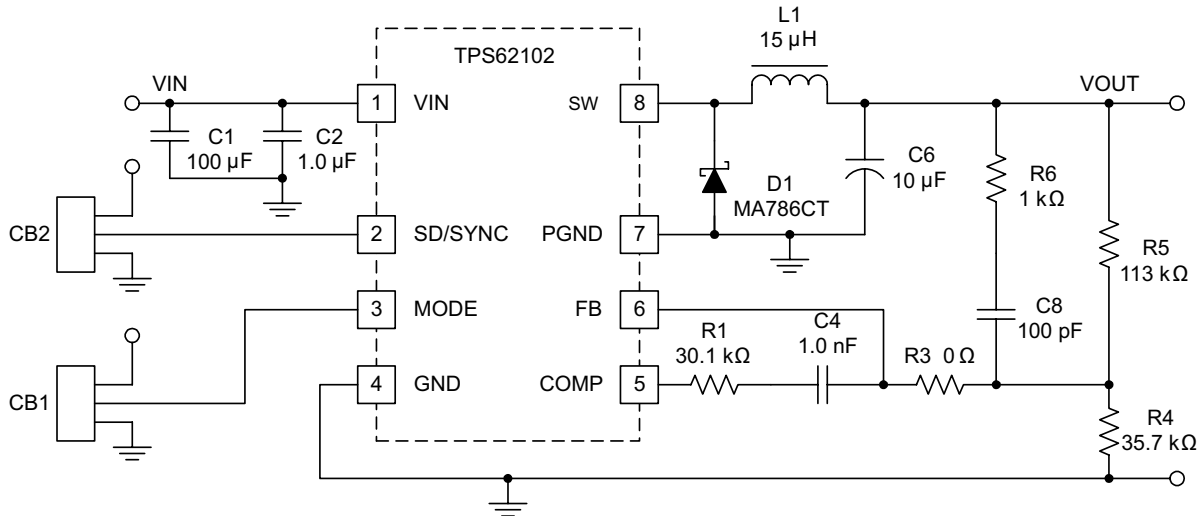

Figure 2-1. Evaluation Module Schematic
The TPS62102EVM-01 evaluation module is supplied fully assembled and ready to test. This evaluation module demonstrates an automatic mode switching converter that is capable of 500-mA output current at 3.3 V. The switching frequency of this converter is 1 MHz free running. Other versions of this converter IC are available that have nominal switching frequencies of 300 kHz, 600 kHz, and 2 MHz. Note that the fundamental frequencies have been chosen to minimize interaction with 455-kHz intermediate frequency (IF) circuits. The user needs to supply a power source and suitable load. Figure 2-1 is the schematic of the evaluation module as assembled. In this configuration, the converter should have a closed-loop bandwidth of approximately 40 kHz.